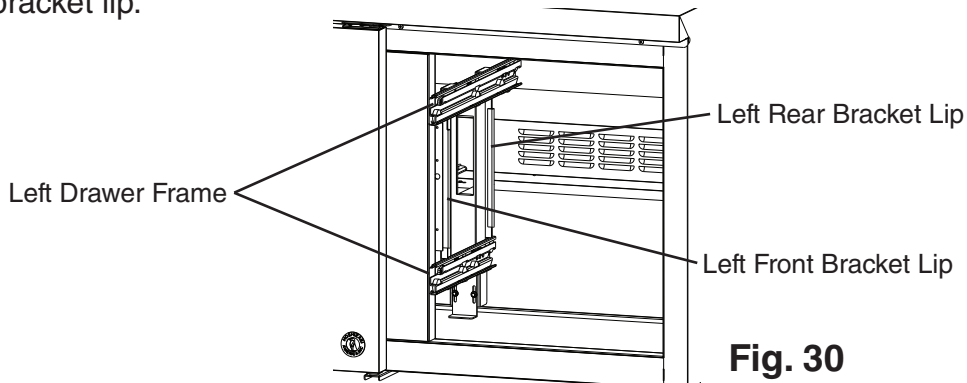

Fig. 30
22) Place the left drawer frame in the appliance and align under the left rear bracket and tighten, then align under the left front bracket and tighten. See Fig. 30.